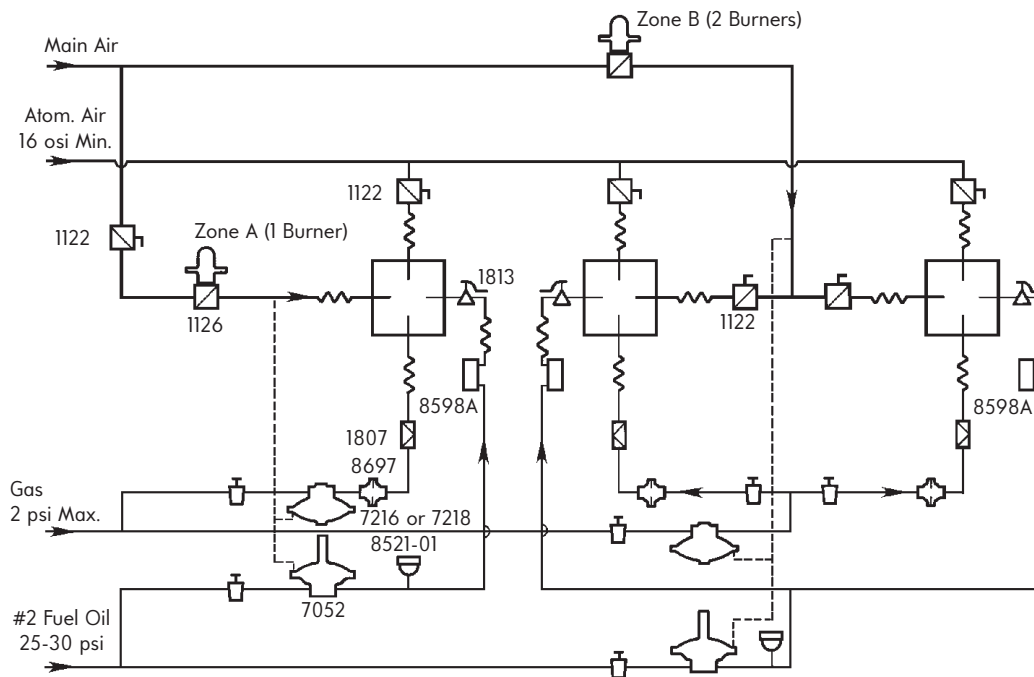

Figure 1. Suggested piping arrangement for 6422 and 6514 Burners for gas and/or light oil.
- Pipe air and fuel lines in a manner similar to that shown in Figure 1. Flexible connections (Bul. 8770) are recommended in air and fuel lines to minimize strain from piping and thermal expansion.
- Connect impulse piping as shown in Figure 1 (or as in Figure 2 if a bleeder is used). These piping arrangements are designed to keep air and gas flows on desired ratio at all firing rates. (Ref: Bulletin 7216, Instructions 7218 and Bul. 8654/8655.)